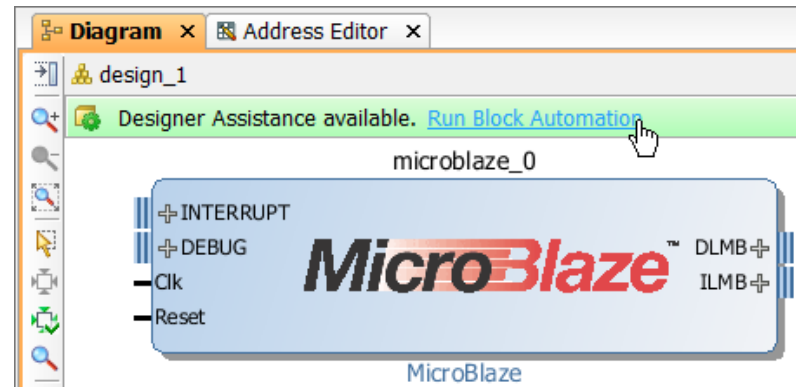

Figure 6-1: Run Block Automation on the MicroBlaze
1. After instantiating a MicroBlaze processor in the design, run Block Automation for MicroBlaze. This creates the MicroBlaze sub-system, as shown in Figure 6-1.